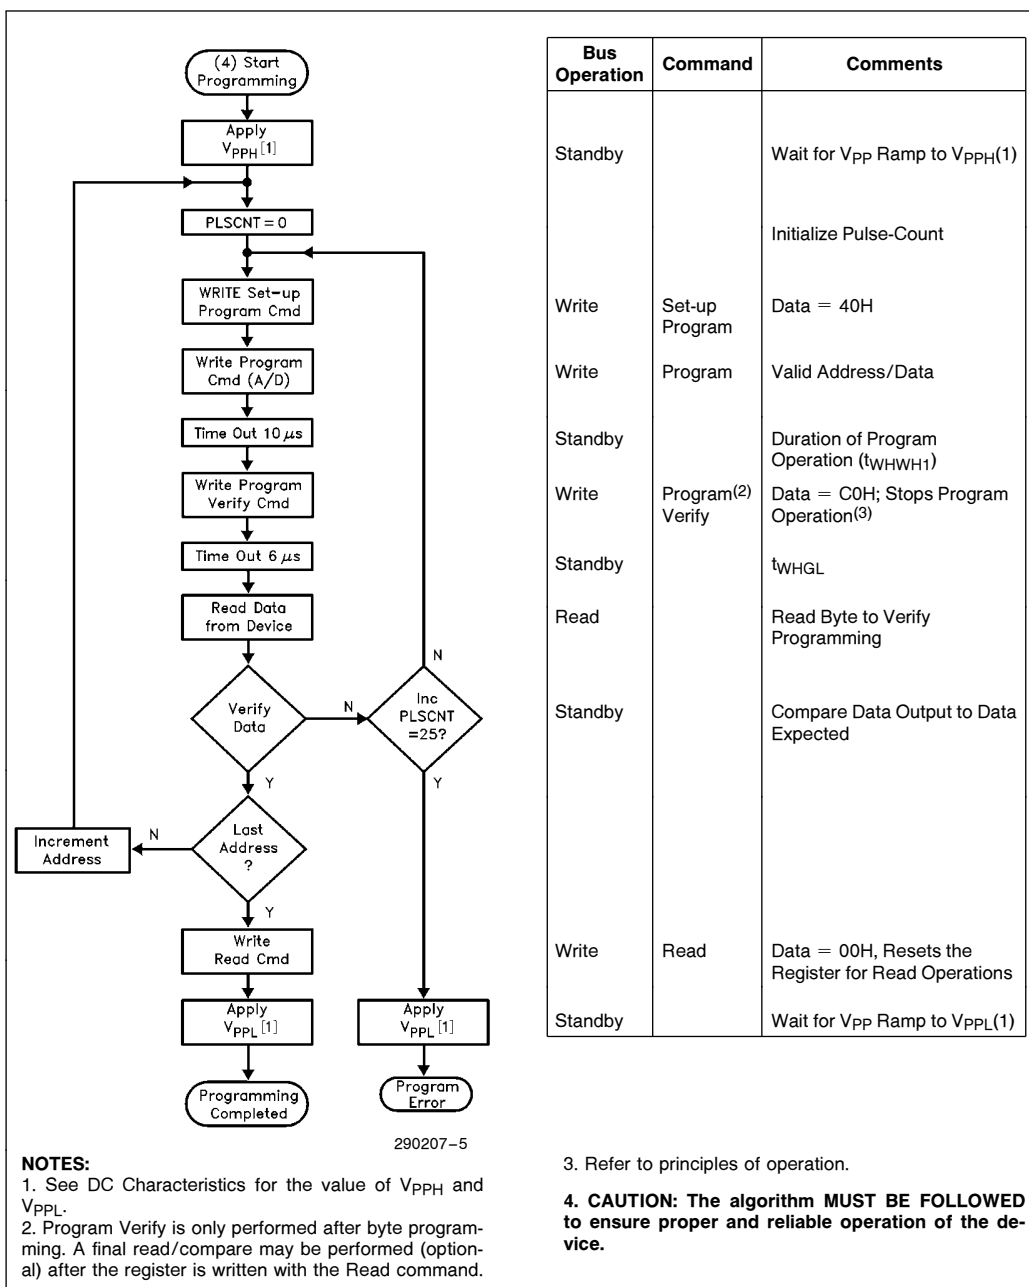

Figure 5. 28F010 Quick Pulse Programming Algorithm
- Figure 5 illustrates the Quick Pulse Programming Algorithm.
The 28F010 applies an internally-generated margin voltage to the byte. A microprocessor read cycle outputs the data. A successful comparison between the programmed byte and true data means that the byte is successfully programmed. Programming then proceeds to the next desired byte location. Figure 5, the 28F010 Quick Pulse Programming algorithm, illustrates how commands are combined with bus operations to perform byte programming. Refer to AC Programming Characteristics and Waveforms for specific timing parameters.
The Quick Pulse Programming algorithm uses programming operations of 10 μ s duration. Each operation is followed by a byte verification to determine when the addressed byte has been successfully programmed. The algorithm allows for up to 25 programming operations per byte, although most bytes verify on the first or second operation. The entire sequence of programming and byte verification is performed with V_{PP} at high voltage. Figure 5 illustrates the Quick Pulse Programming algorithm.